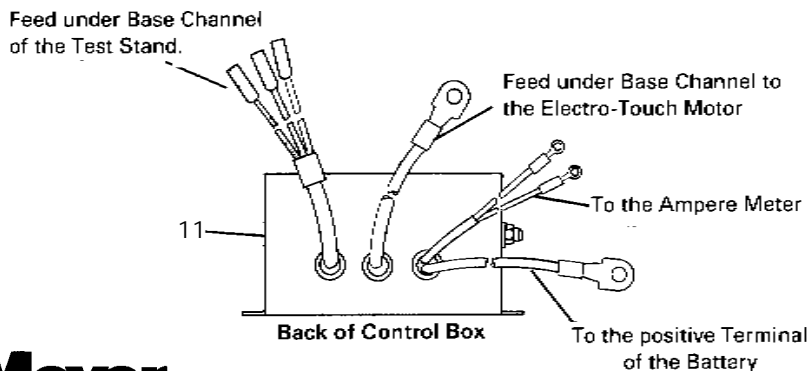

Figure 2
6) Connect the straight end of the hoses (32) to the 1/4" pipe tee (20) on the left hand power angling cylinder feeding the hose thru the split bushing (23) and the 7/8" hole in plate welded to the base of the test stand. Attach a male half of a coupler (25) to the swivel end of the hose as shown in the drawing. Connect the swivel end of the remaining hose(32) to the 1/4" pipe tee (20) in the right hand power angling cylinder and insert the straight end of the hose into the 9/16" hole in the plate. Thread the female end of a coupler (24) to the straight end of the hose sandwiching the plate between the hose and the coupler as shown in the drawing.
7) Locate and secure control box (11) to either the test stand or to the test bench (the control box must be grounded to the test stand). See Fig. 2 for the following connections. Attach the two small wire leads coming out of the control box to the ampere meter. (If the ampere meter gives a negative reading, switch the wires around). Also be certain to remove the wire clip from the terminals on the ampere meter. Feed the three wires (red, black, green) under the base channel of the test stand (1) and pull the wires thru the split bushing (23) and the 7/8" hole in the base channel. Attach the short black cable coming out of the control box to the positive terminal of the battery. Feed the longer black cable under the base channel of the test stand and pull it thru the split bushing; this cable will attach to the Hydraulic unit motor. Attach the ground cable (33) to the negative terminal of the battery and the other end to the test stand.
8) Put a Hydraulic Unit that is known to operate properly in the test stand using the special adaptor (31) and locator key (30). When testing an "H" unit, this special adaptor is not used. Plug the black, red and green wires coming from the unit to the matching colored wire in the test stand wiring harness. Attach the black power cable to the motor stud on the hydraulic unit. Loosen the upper stop collars and activate the raise switch. (If unit does not raise, see Form #1-634R). When unit is at full stroke in the raised position, tighten the upper stop collars. Be certain the lower stop collars are set so the unit can be removed. Adjust if necessary.